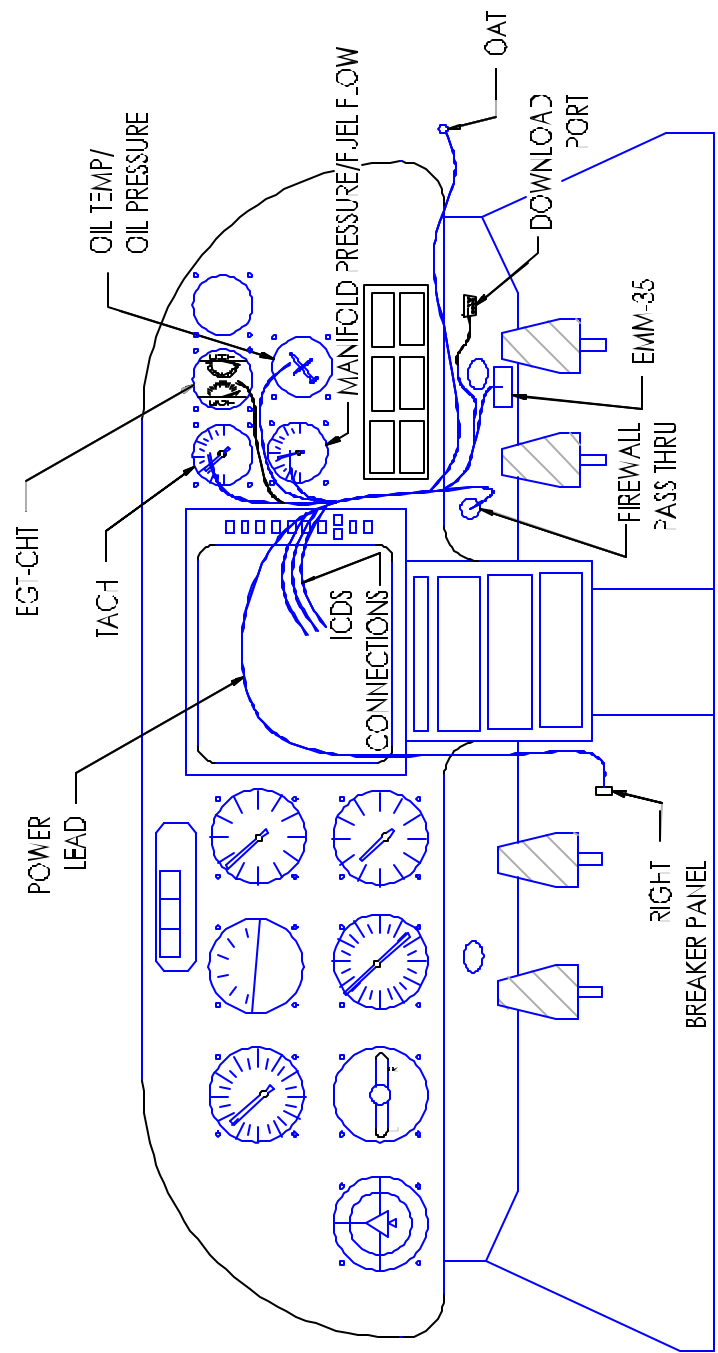

Figure 4-2
4. Route the individual segments of harness 611-0600 to the general areas depicted in **Figure 4-2**. Route the harness segments along other harnesses or mechanical structures so they can be secured after the connection procedures.